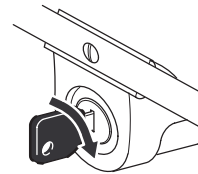

Figure 11
- **Electric Starting** (electric-start model only)—Insert the key into the switch, turn the key to the right, and release it when the engine starts (Fig. 11).